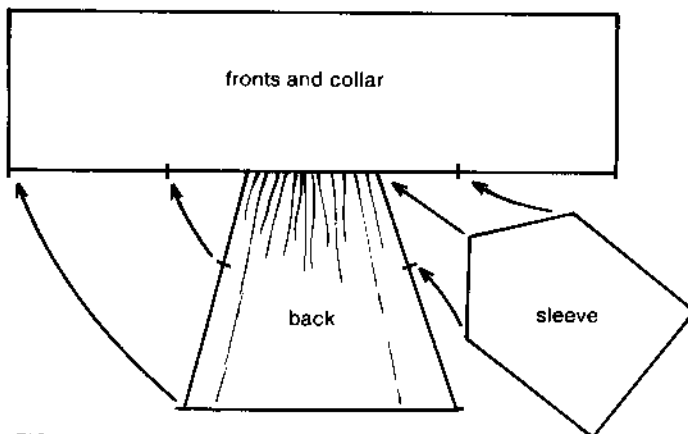

FIGURE 2
- Mark the center of the scarf length, and the center of the gathered back. Stitch them together across the top back. Reinforce the machine stitching as this seam takes quite a bit of strain. (Fig. 2).
- Set in sleeves before the side seams are sewn up. Make sure the top point of the sleeve is exactly where the back section and scarf fronts separate (Fig. 2).